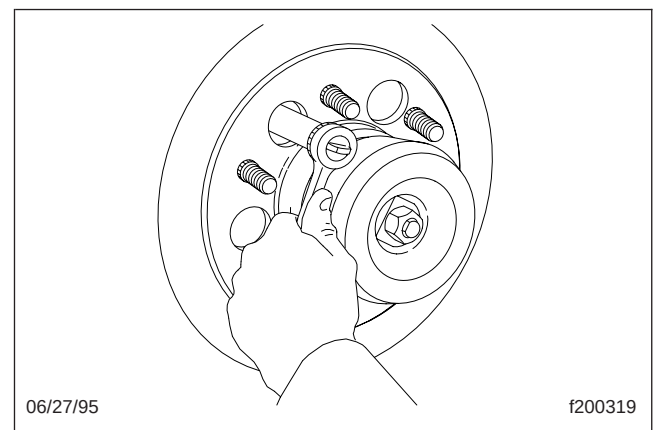

Fig. 1, Line Up the Access Holes
8. Align the access holes in the fan clutch with the allen screws on the fan hub. See Fig. 1.